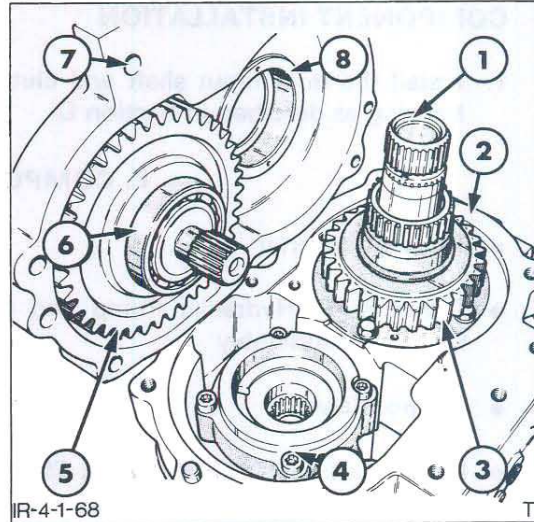

Figure 68
3. Slide the gear from the stator support. Remove the stator support retaining bolts then remove the support from the oil distributor housing, Figure 68.
5. Locate the gear onto the stator support, Figure 68.